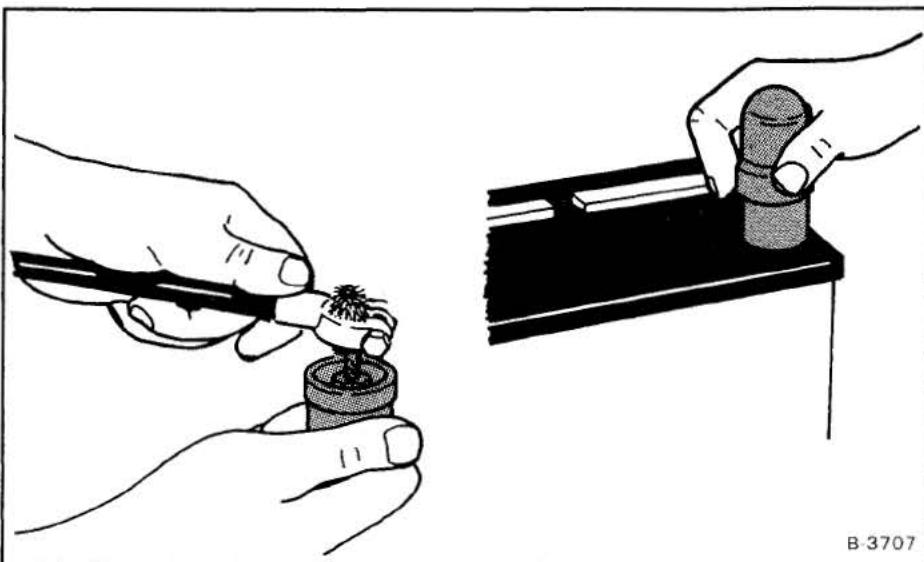

Fig. 62 Cleaning Battery Terminals
- Clean the terminal posts (Fig. 62) of the new battery in the engine compartment. Install the holdown clamp.